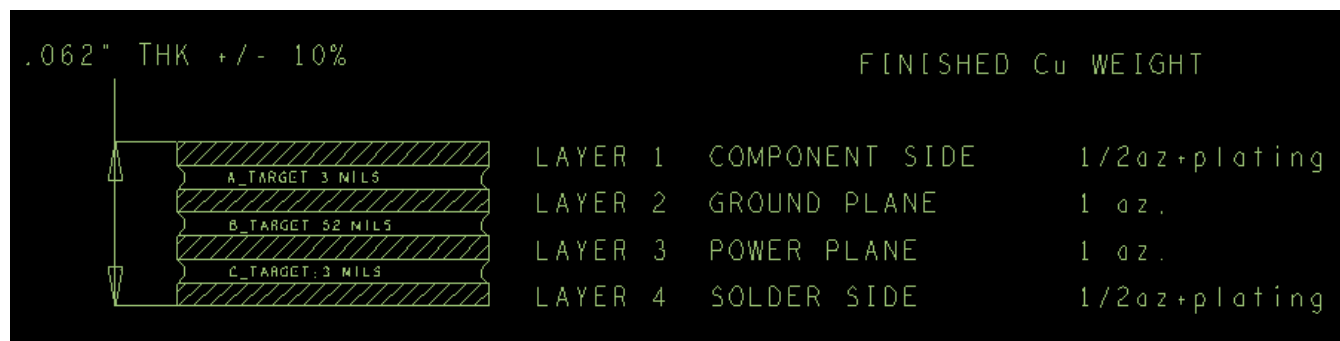

Figure 5. IMXRT1050-EVKB stackup
- The recommended stackup is four layers, with the layer stack shown in Figure 5. The left-hand image shows the detail provided by NXP inside the fabrication detail as a part of the Gerber files. The right-hand side shows the solution suggested by the PCB fabrication company for the requirements. Figure 6 shows the IMXRT1050-EVKB PCB stackup implementation: